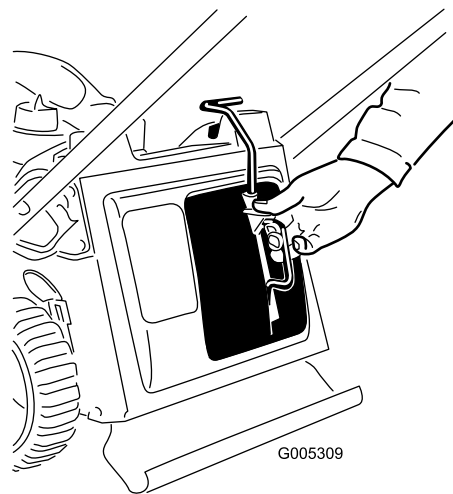

**Figure 21**
3. Tighten the upper handle knob as tight as you can (Figure 21).